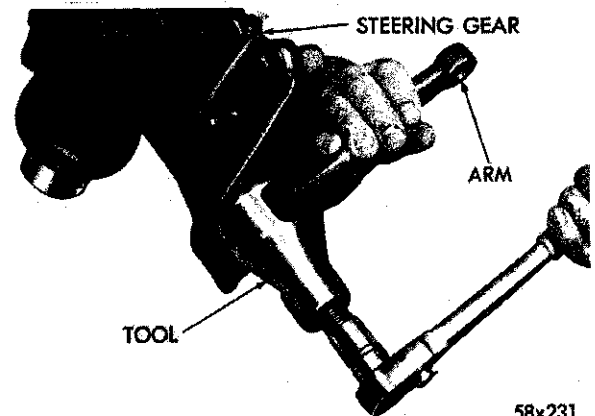
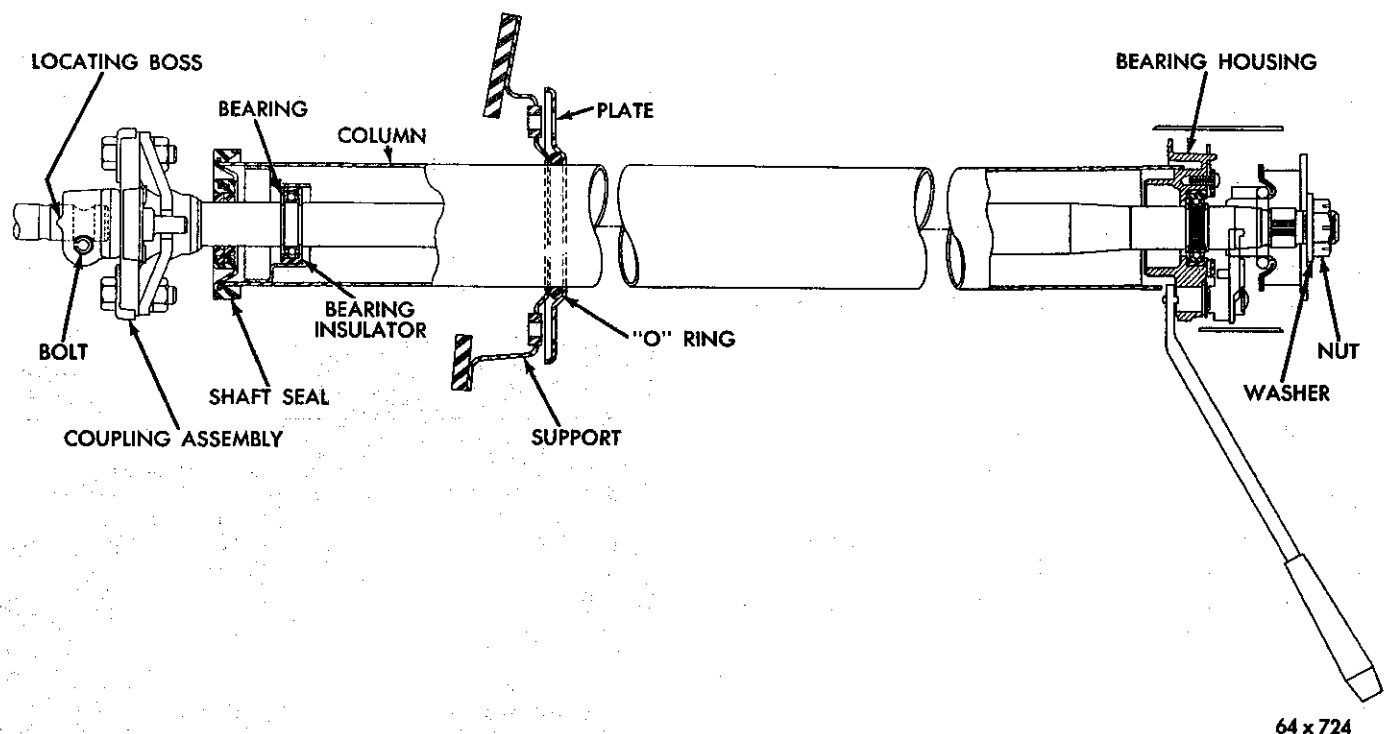

Fig. 2—Removing the Steering Gear Arm
Fig. 8—Jacket Tube and Column Tube—Cross Section
sector and a worm shaft connects the steering wheel to the power piston. The worm shaft is geared to the piston through a recirculating ball contact (Fig. 2)
- (1) Raise the vehicle.
- (2) Remove the cotter key and nut connecting the steering gear arm to the center link.
- (3) Remove the tie rod end with Tool C-3894. (See "Tie Rod End Replacement.")
- (4) Remove the steering gear arm nut and washer.
- (5) Slide Tool C-3646 upon the arm and place the shoe of the puller behind the steering arm (Fig. 2). Tightening the tool center screw against the gear shaft will pull the steering gear arm from the gear shaft.
(11) Reinstall the steering wheel nut on the upper steering tube to protect the threads. Pull up on the jacket tube and tap the steering wheel nut with a fibre hammer. This action will force the bearing from the splines on the steering tube.
(12) On Imperial models, remove the two screws from the underside of the steering wheel and remove the horn blowing actuator and the steering wheel cover.
(13) Disconnect the horn wire.
(14) Refer to Figure 8 and loosen the steering wheel nut several turns and install the steering wheel puller Tool C-3428-A, and remove the steering wheel nut and the steering wheel.
(15) Remove the directional switch lever.
(16) Remove the steering column lower cover.
(17) Remove the two screws and disconnect the switch wires at the connection and remove the directional switch and wires.
(18) Remove the retainer snap ring from the groove in the steering tube at the top of the bearing using pliers Tool C-3229.
(19) Remove the jacket tube shield to allow access to the column tube clamp and remove the screws attaching the steering jacket tube clamp at the instrument panel and remove the clamp.
(20) Raise the carpet to expose the floor panel. Move the rubber grommet up on the jacket column.
(21) Remove the screws attaching the rubber dust boot at the firewall and remove the floor inspection panel.
(22) Loosen the jacket tube clamp at the steering gear housing.
(23) On Chrysler and Imperial Models, remove the cotter key and nut at the center link and disconnect the link from the arm.
(24) Remove the arm nut and washer at the steering gear shaft.
(25) Slide Tool C-3646 up on the arm and place the shoe of the puller behind the steering arm (Fig. 2). Tightening the tool center screw against the gear shaft, will pull the steering arm from the gear shaft.